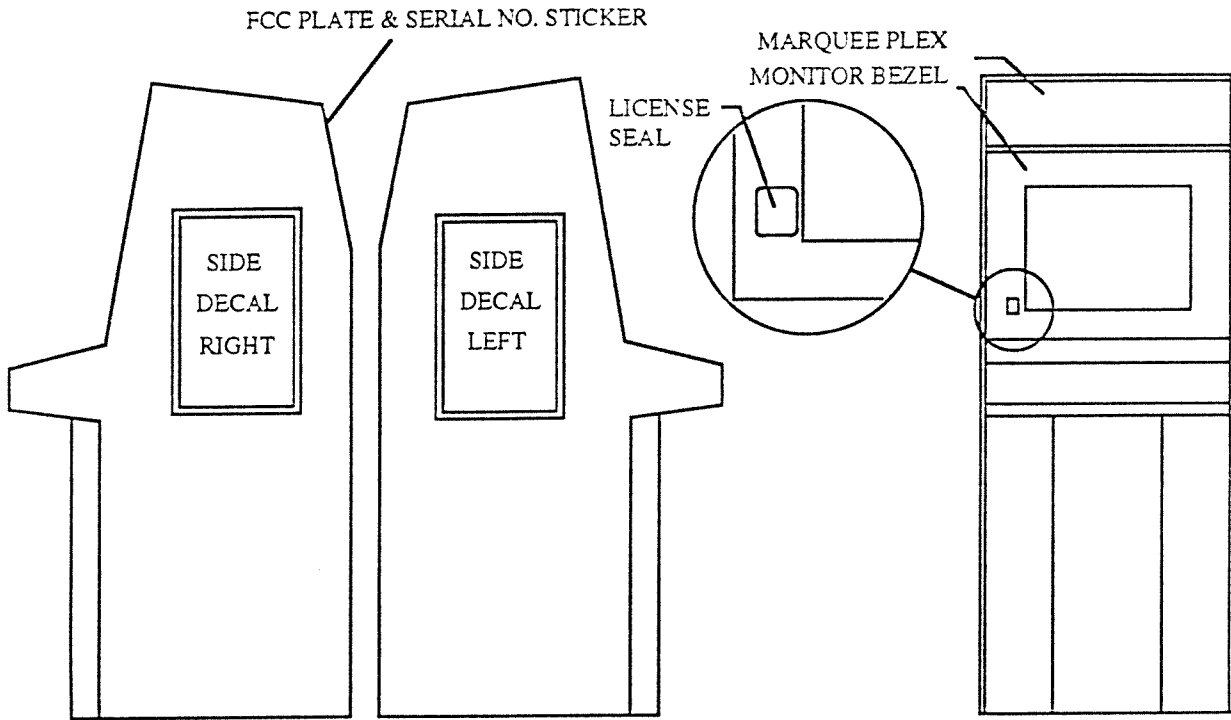

Figure 1
1. Locate the LICENSE SEAL and place seal as shown in figure 1. Note: Verify that the License Seal will be visible when installed on game cabinet on the existing Monitor Bezel.
2. Locate the SIDE DECALS and install on the left and right side panels of the (see figure 1). Note: A mixture of slightly soapy water can be used on the cabinet to position the artwork as desired. A squeegee may be used to remove any wrinkles in the artwork if soapy water is used.
3. Locate the MARQUEE PLEX and measure the size of existing marquee plex or required size to fit and trim the marquee plex to size. Install on cabinet. (see figure 1)
29. Locate the Kit SERIAL NUMBER STICKER and FCC PLATE. Install these on the rear of the game cabinet. (see figure 1)